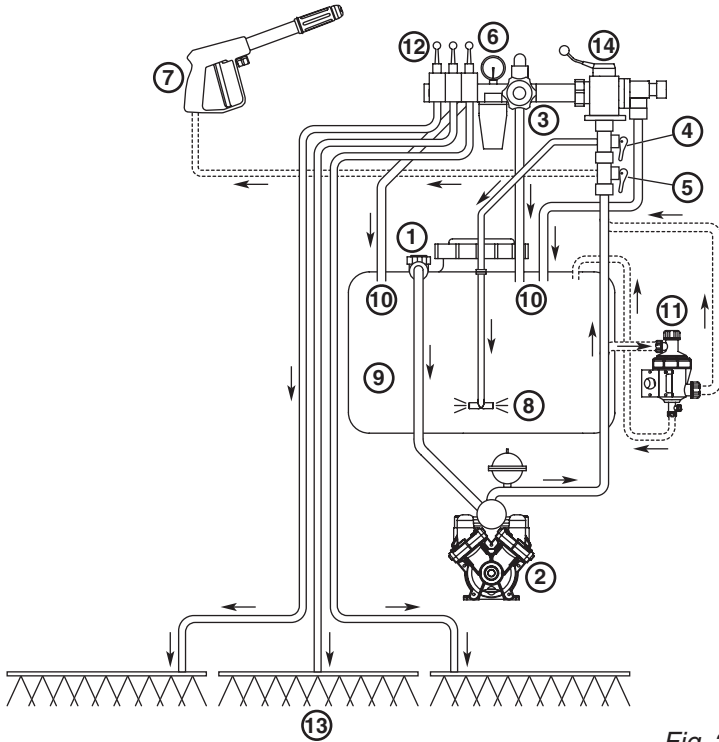
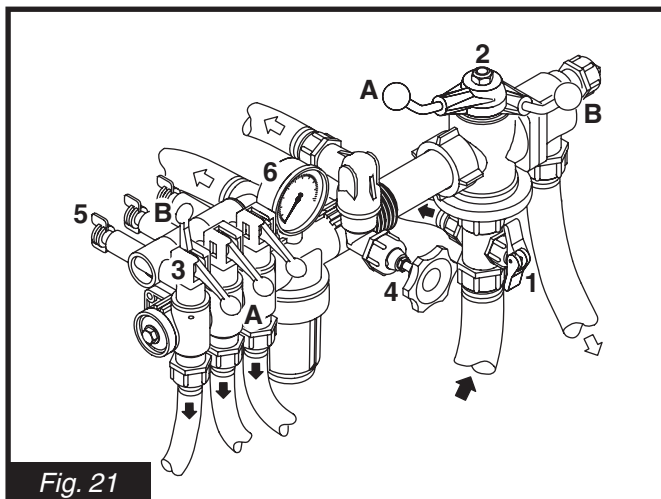
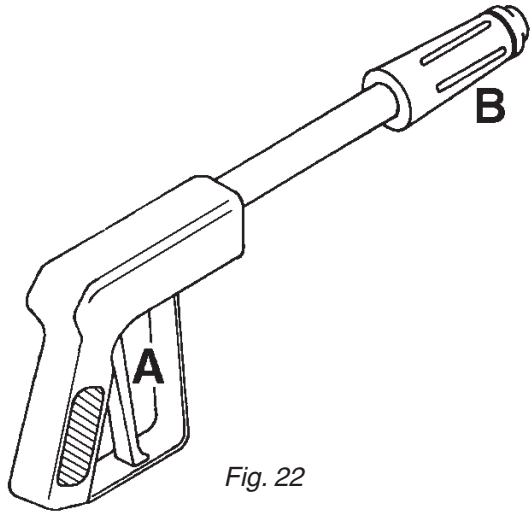

Fig. 20
Fig. 21
Fig. 22
3. Open or close lever 1 (Fig. 21) depending on whether pressure agitation is required (Remember pressure agitation takes 5% to 10% of pump output).
4. Turn main On/Off handle 2 (Fig. 21) to **ON** position **A**.
5. Set all hand levers 3 (Fig. 21) on the distribution valves to **ON** position **A**.
6. Turn the HARDI-MATIC valve 4 (Fig. 21) counter-clockwise all the way out.
8. Increase pressure by turning the HARDI-MATIC valve 4 (Fig. 21) clockwise. Adjust until the pressure gauge 6 (Fig. 21) reaches the desired pressure (turn HARDI-MATIC valve counter clockwise to decrease pressure).
9. Place the first boom distribution valve lever **3** (Fig. 21) in the **OFF** position **B**.
10. Turn the adjusting screw **5** (Fig. 21) until the pressure gauge **6** (Fig. 21) again shows the same pressure as in step **8** (Turn the screw clockwise for higher pressure, counter clockwise for lower pressure).
11. Turn the boom distribution valve lever **3** (Fig. 21) back to the **ON** position **A**.
13. In order to shut off the entire boom, turn the **ON/OFF** handle **2** (Fig. 21) to **OFF** position **B**. This returns the pump output to the tank through the return system. The diaphragm anti-drip valves ensure instantaneous closing of all nozzles.
In order to shut off one or more boom sections, turn the boom distribution lever(s) **3** (Fig. 21) of the unneeded boom section(s) to **OFF** position **B**. The constant pressure device ensures that the pressure does not increase in the section(s) which are still operating.
14. Set the three distribution valves **3** (Fig. 21) to the OFF position. Set spraygun valve **5** (Fig. 20) to the ON position.
15. Then depress the red handle **A** (Fig. 22) to spray fluid from the spraygun. Check the pressure on the system pressure gauge **6** (Fig. 21) and follow step **8** to adjust.
16. To adjust the spray pattern, turn the black handle **B** (Fig. 22) OUT for a narrow spray pattern for long distances and IN for a wide pattern for more coverage at close distances.